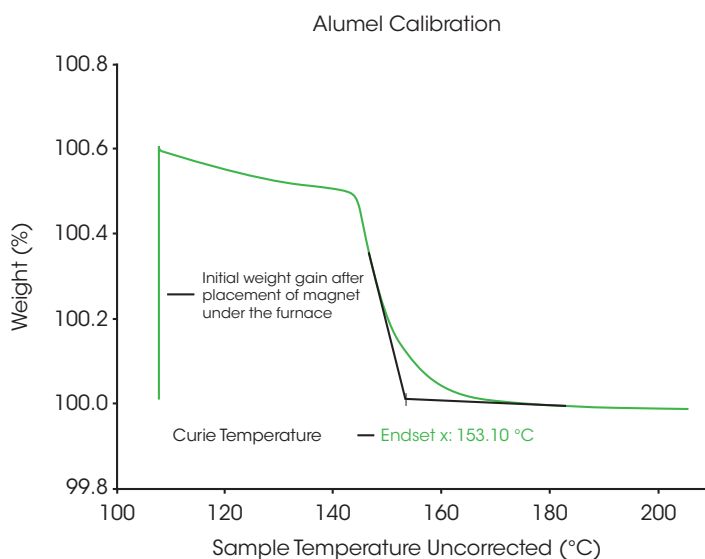

Figure 2. Thermogram for Temperature Calibration using Alumel (TGA)
4. When the test is complete, an “S” shaped curve will be observed. The curie temperature corresponds to the extrapolated endpoint of this “S” shaped curve. A typical curve is displayed in Figure 2.